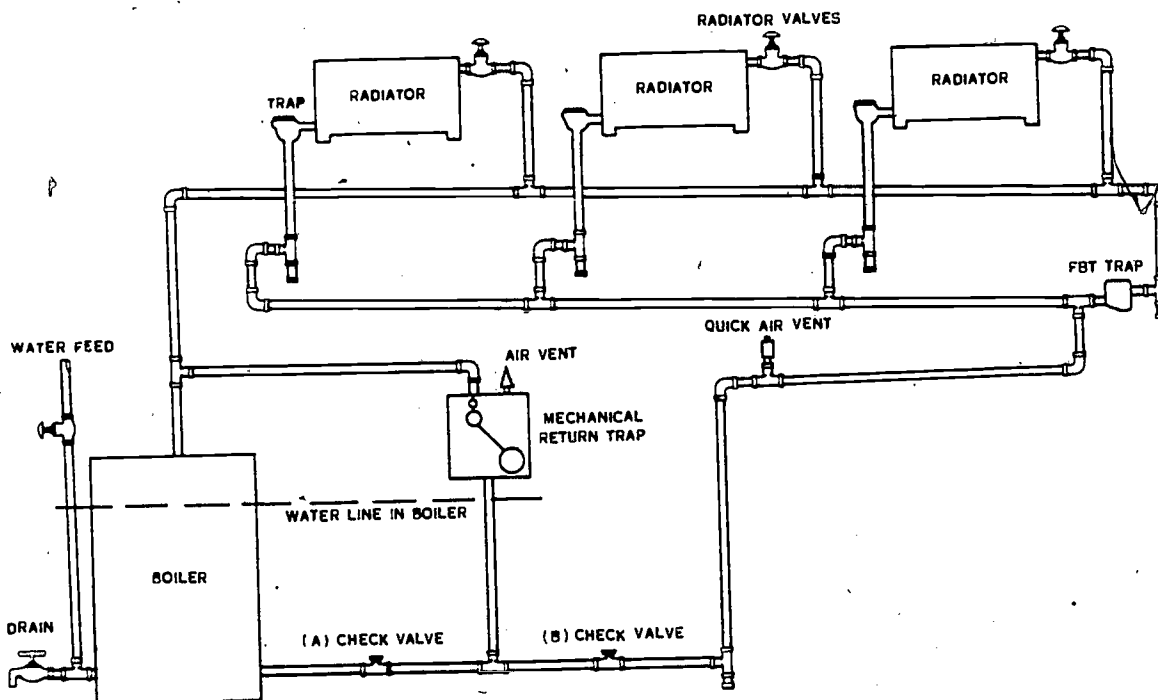

Figure 4. A mechanical return-trap steam system.
3. **Mechanical Return Trap.** The mechanical return trap in the steam system, illustrated in figure 4, is another method that is used to balance the pressures and allow the water to return to the boiler by gravity. The trap is vented to the atmosphere and is connected to the steam line and the condensate return line. Two swing-type check valves (one located on each side of the tee connection to the trap) are necessary for the operation of this system.
4. When the boiler pressure is quite low, the condensate returns to the boiler by gravity, but when the boiler pressure exceeds 1 pound, check valve A, shown in figure 4, is held closed and the condensate water backs up into the return trap. When the water level in the trap reaches a predetermined point, the float closes the air vent and opens a pipe leading to the top of the boiler. With the air vent closed and the boiler line opened, the pressure in the trap immediately equalizes with the pressure in the boiler. When this happens, the pressure on each side of check valve A becomes equal and the weight of the water causes
it to swing open and allow the condensate to flow into the boiler. The check valve B, shown in figure 4, prevents the pressure from backing up the water into the return line. When the trap is almost empty, the steam valve closes, the air vent opens, and the trap begins to refill.